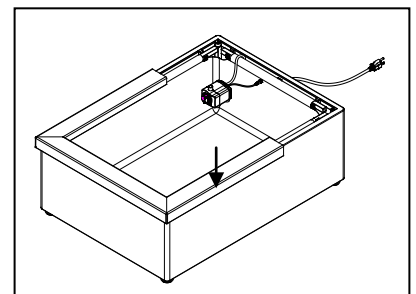

Fig. 1
1. Select a level location to assemble the Patio Pond. Then place the pump inside the basin, route the cord of the pump between the liner and the inside wall of the fabric, so it will not be visible from the outside of the unit. Fig. 1